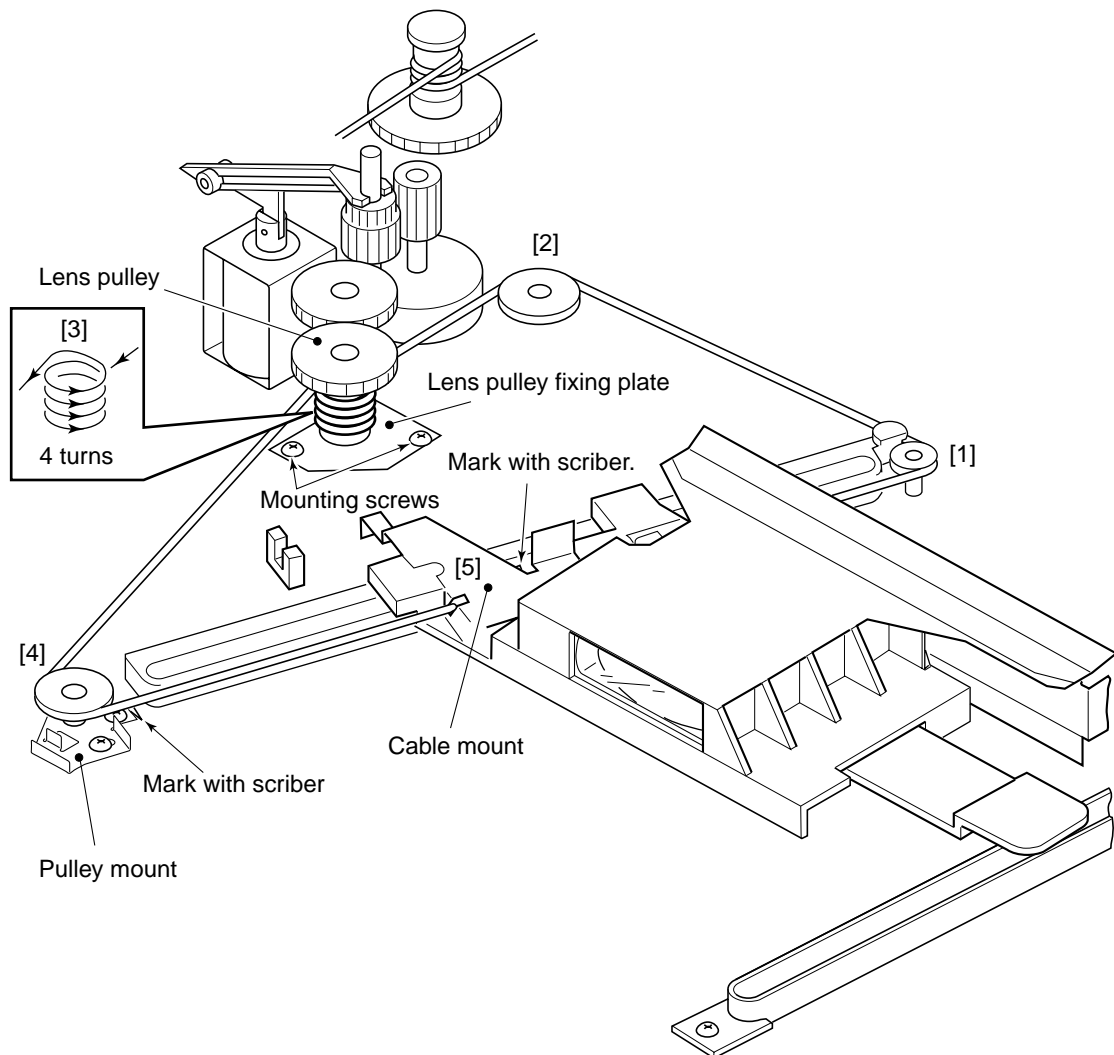

Figure 10-206
- 1) Unscrew the two screws used to hold the lens pulley fixing plate, and remove the lens pulley. (See Figure 10-206.)
- 2) Wind the lens wire around the lens pulley as shown in Figure 10-206, and fix it with the two fixing screws.